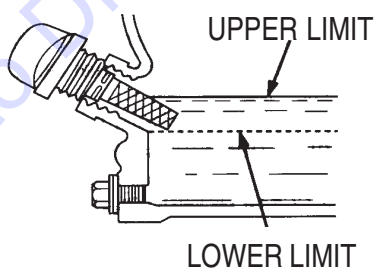

Figure 6. Engine Oil Dipstick (Oil Level)
4. If the oil level is low (Figure 6), fill to the edge of the oil filler hole with the recommended oil type (Table 3). Maximum oil capacity is 0.26 quarts (0.25 liters).